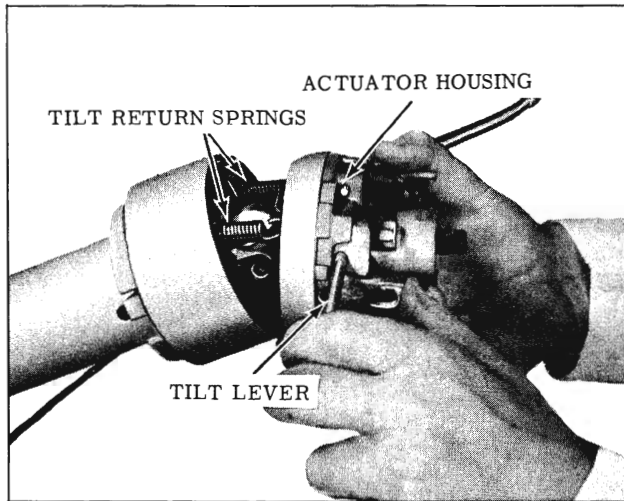

Fig. 4-104 Installing Actuator Housing
NOTE: The loops on the upper ends of the springs must have the opening toward the top of the column. (Fig. 4-104)
1. Raise the tilt lever "up" slightly to prevent the lock shoes from engaging the pins, then install the actuator assembly over the steering shaft while guiding the turn signal cable and horn wire through the shift bowl. (Fig. 4-104)